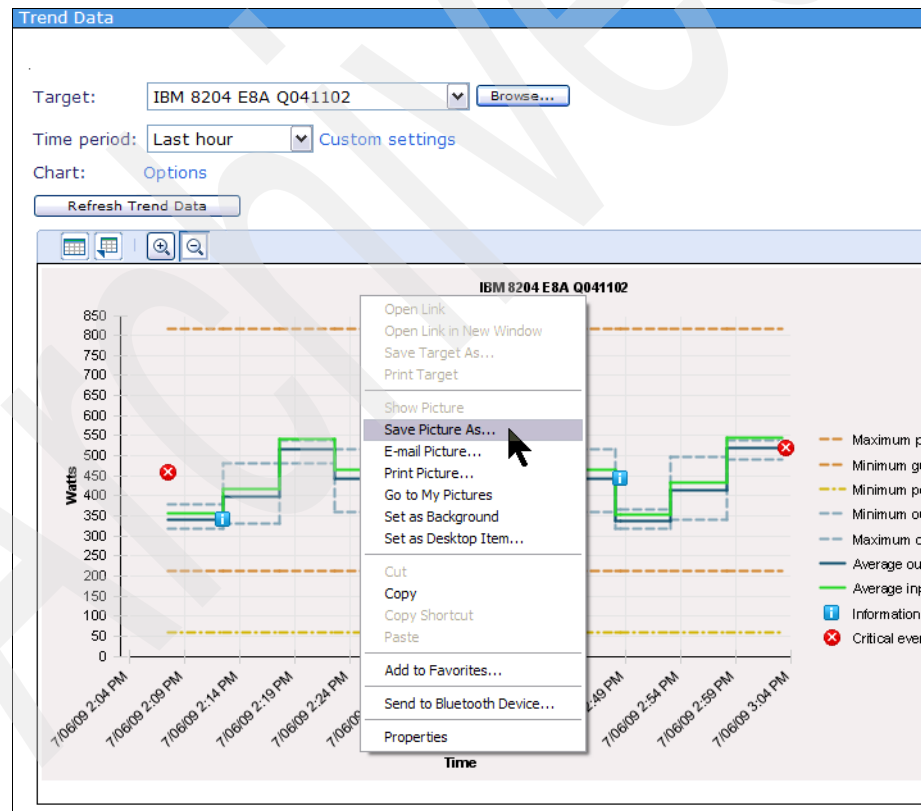

Figure 6-49 Exporting trend data as a file
1. Right-click either the upper or lower trend data charts as required. The context menu displays, shown in Figure 6-49. Select **Save Picture As**.